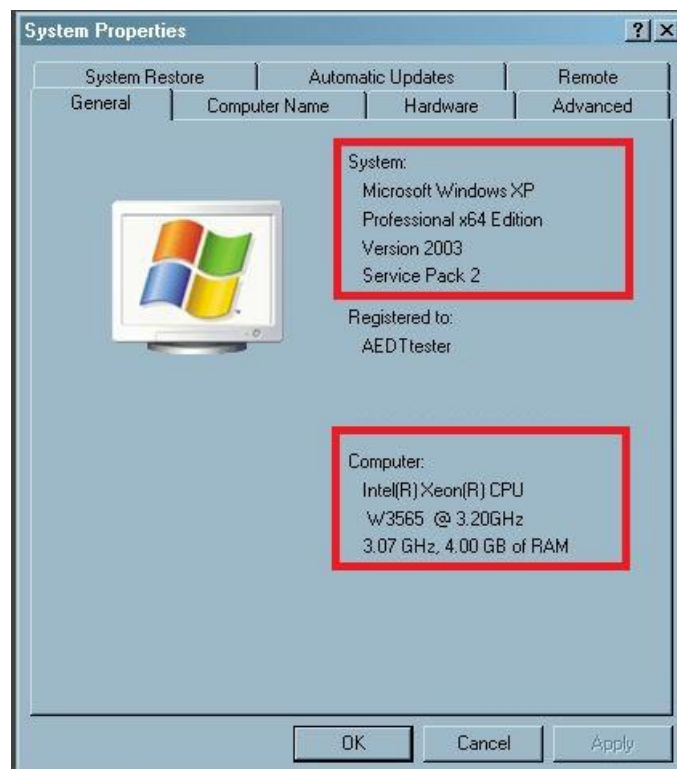

Figure 2-1 System Properties – Windows XP
- Navigate to *Start* menu, *Control Panel*, *System*. The *General* tab displays the operating system version, processor, and RAM (Figure 2-1). For a 32-bit version OS, it displays *Windows XP Professional Version <Year>*. For a 64-bit version OS, it displays *Windows XP Professional x64 Version <Year>*.